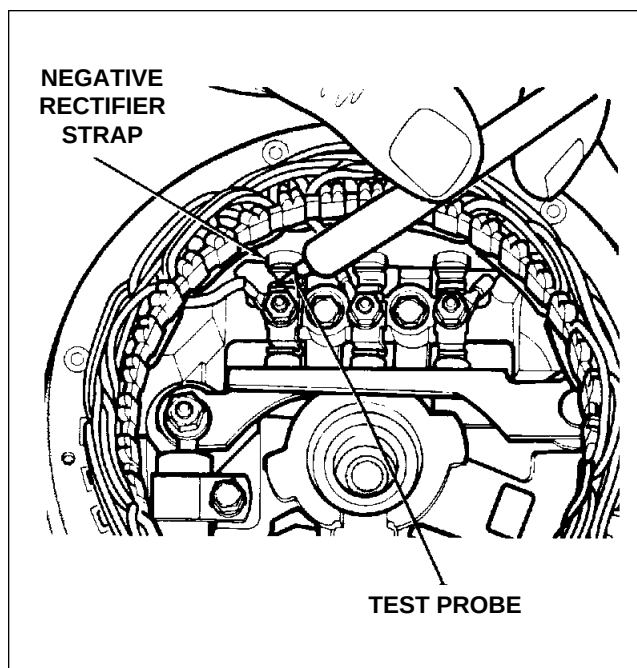

Figure 24-21. Testing Chrysler Alternators
b. Testing Of Negative Rectifiers Using C-3829 Tester (Refer to figure 24-21.)
- (1) Connect test lead alligator clip to rectifier end housing.
- (2) Touch metal strap of each negative rectifiers to test probe and note each reading.
- (3) Test indications for negative rectifiers are the same for positive rectifiers except test meter will read on the opposite side of scale.